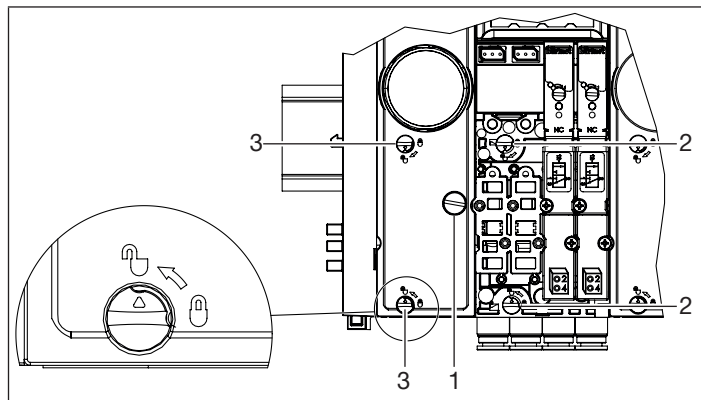

Fig. 15: Unlocking elements and fastening screw
- Carefully rotate the connection module fastening screw (Item 1, “Fig. 15”) anticlockwise with a slotted screwdriver until it comes to a stop.
- Set the bottom locking element (Item 2, “Fig. 15”) of the valve unit on the right side to the open position with a slotted screwdriver (the open position is labelled on the front of the unit with the aid of a pictogram).
- Set the top locking element (Item 2, “Fig. 15”) of the valve unit on the right side to the open position with a slotted screwdriver (the open position is labelled on the front of the unit with the aid of a pictogram).
- Set the bottom locking element of the connection module (Item 3, “Fig. 15”) and the valve unit on the right side (Item 2, “Fig. 15”) to the open position with a slotted screwdriver (the open position is labelled on the front of the unit with the aid of a pictogram).
- Set the top locking element of the connection module (Item 3, “Fig. 15”) of the valve unit on the right side (Item 2, “Fig. 15”) to the open position with a slotted screwdriver (the open position is labelled on the front of the unit with the aid of a pictogram).
- Set the bottom locking element (Item 2, “Fig. 15”) of the valve unit on the left side to the open position with a slotted screwdriver (the open position is labelled on the front of the unit with the aid of a pictogram).
→ Set the top locking element (Item 2, “Fig. 15”) of the valve unit on the left side to the open position with a slotted screwdriver (the open position is labelled on the front of the unit with the aid of a pictogram).
→ Set the bottom locking element (Item 2, “Fig. 15”) of the valve unit to be dismantled, and the valve unit on the right side, to the open position with a slotted screwdriver (the open position is labelled on the front of the unit with the aid of a pictogram).
→ Set the top locking element (Item 2, “Fig. 15”) of the valve unit to be dismantled, and the valve unit on the right side, to the open position with a slotted screwdriver (the open position is labelled on the front of the unit with the aid of a pictogram).
- Carefully rotate the connection module fastening screw (Item 1, "Fig. 15") anticlockwise with a slotted screwdriver until it comes to a stop.